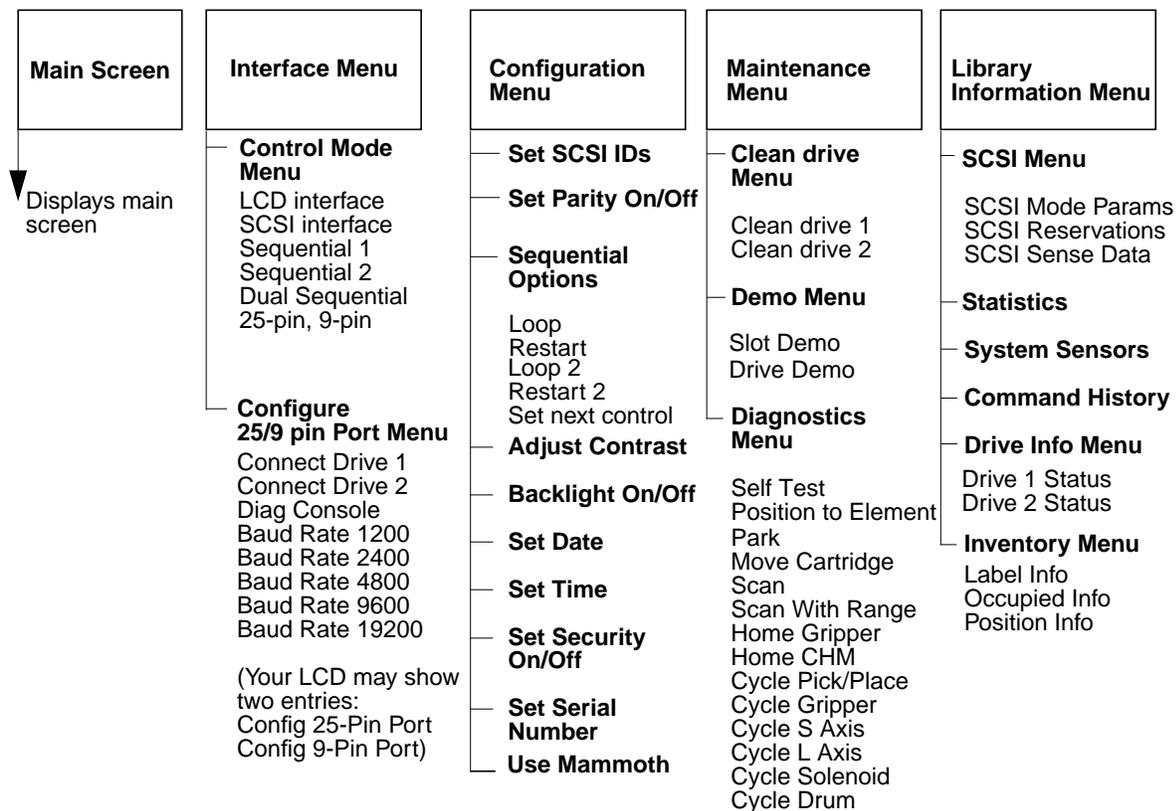

FIGURE 7-1 Primary Menu
- **Press Escape until the Primary Menu is displayed (FIGURE 7-1).**